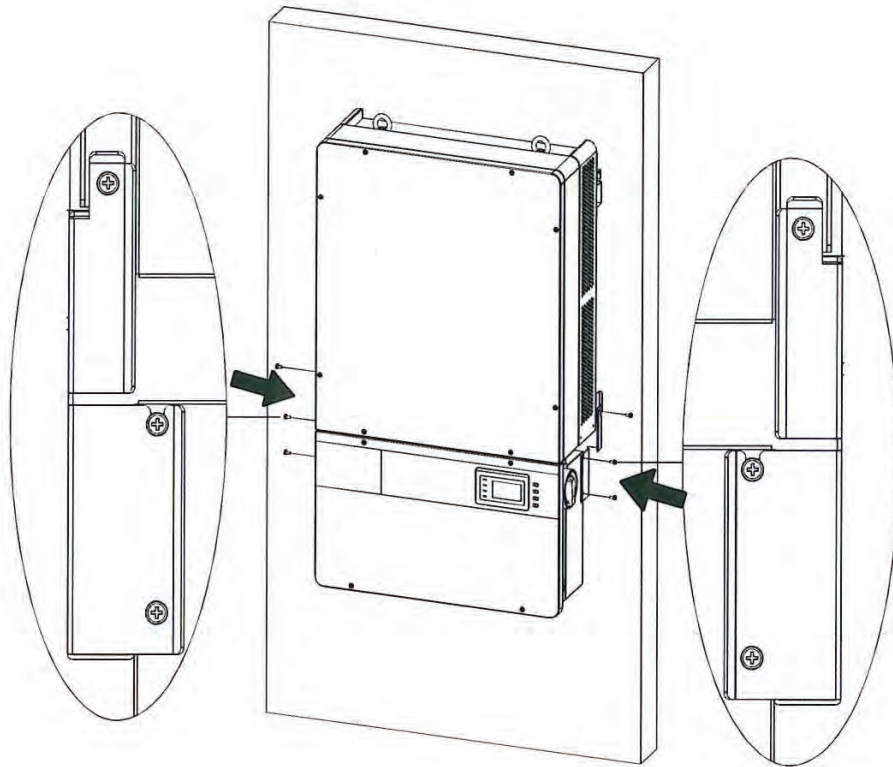

Figure 3-12
(5) Attach the main housing and the wiring box to the mounting bracket with the **M5x10 bolts (6pcs.)** (see Figure 3-12)